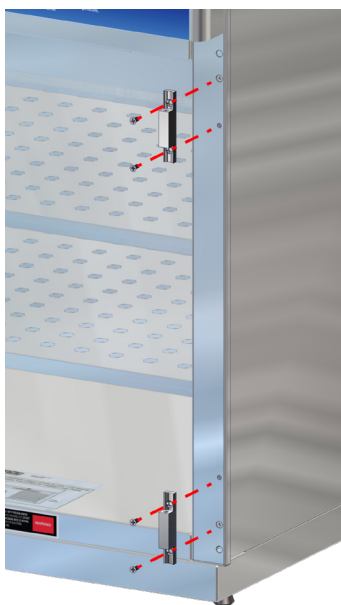

Fig. 167: Detach Glass Door Hinge - Male Half
2. Detach the male halves of the glass door hinge by unscrewing them from the warming cabinet. The hinge halves on the door should remain in place (Fig. 167).